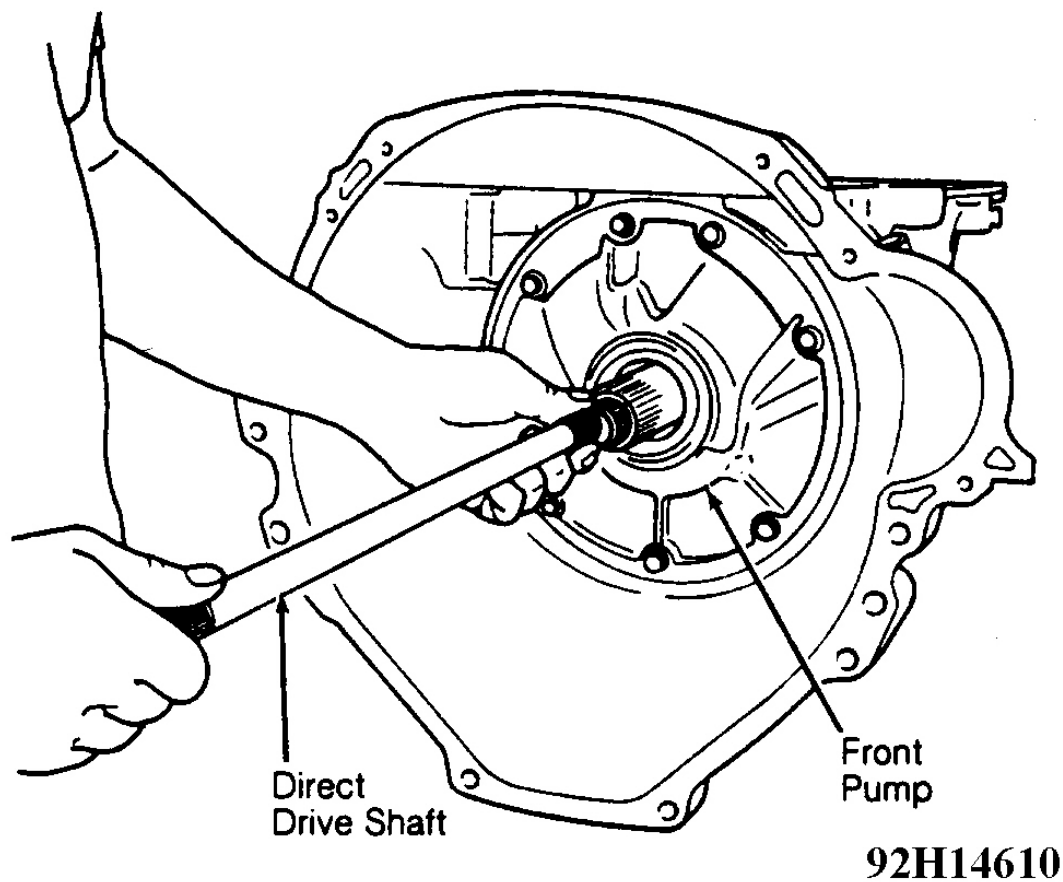

Fig. 27: Removing Direct Drive Shaft
4. Remove direct drive shaft by pulling it straight out from case. See **Fig. 27**. Remove pump body retaining bolts. Remove pump from case using 2 slide hammers installed in opposite pump retaining bolt holes. Remove pump-to-case gasket.